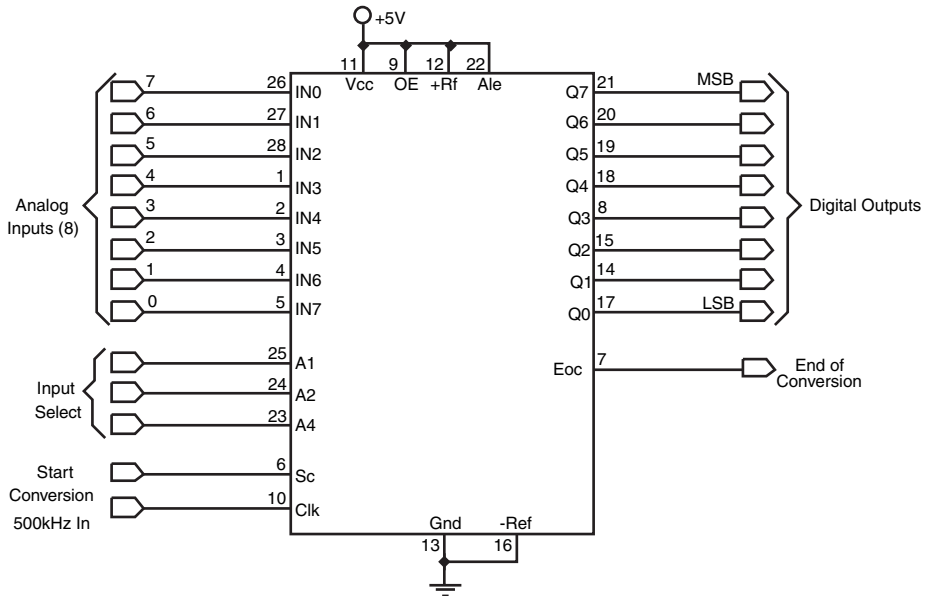

FIGURE 14-22 Basic hookup circuit for the ADC0809 analog-to-digital converter.
Fig. 14-22 shows a basic circuit for using the ADC0809, which provides eight analog inputs and an eight-bit conversion resolution. The input you want to test is selected using a three-bit control sequence—000 for input 1, 001 for input 2, and so on. Note the ~500 kHz time base, which can come from a ceramic resonator or other clock source or from a resistor/capacitor (RC) time constant. If you need precise analog-to-digital conversion, you should use a more accurate clock than an RC circuit.